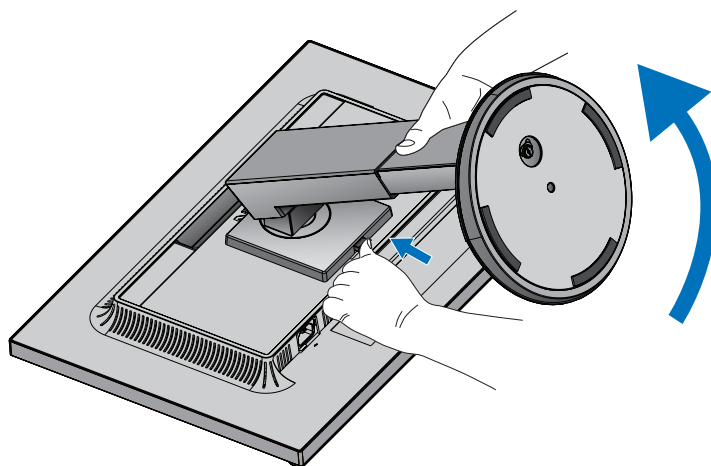

Figure S.1
3. Place the monitor face down on a non-abrasive surface (**Figure S.1**).
4. Place one hand around the base and one hand on the Quick Release Lever. Push and hold the Quick Release Lever in the direction indicated by the arrow (**Figure S.1**).
5. Lift up the stand to unhook it from the monitor (**Figure S.1**). The monitor can now be mounted using an alternate method. Reverse the process to reattach stand.